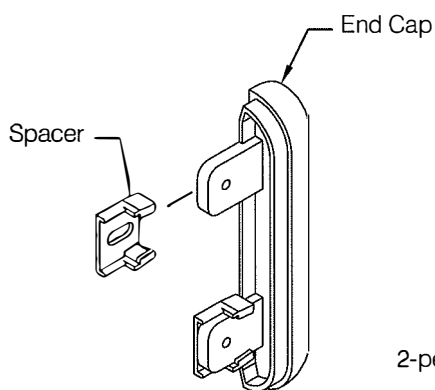
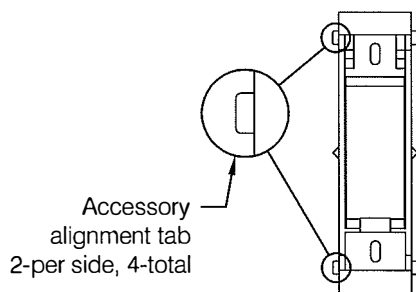
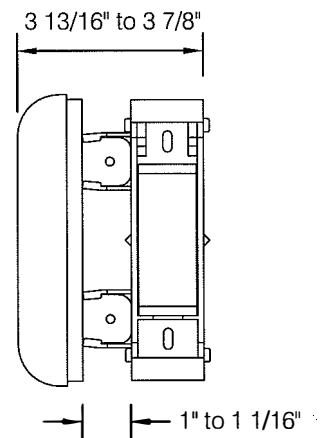

fig 4
fig 5
fig 6
Step 3: A Red-E-Clip® must be installed adjacent to each molded accessory. Begin by installing a spacer on each of the accessory mounting tabs, see **fig 4**. The Red-E-Clip® has four accessory alignment tabs used to facilitate positioning of the molded components with respect to the clip, see **fig 5**. Temporarily locate the accessory and Red-E-Clip® combination by holding them temporarily in their desired position. Remove the accessory and fasten the Red-E-Clip® in place. It is also possible to locate the clip by measuring 3 13/16" to 3 7/8" from the outer edge of the desired accessory location or 1" to 1 1/16" from the inner edge, see **fig 6**.